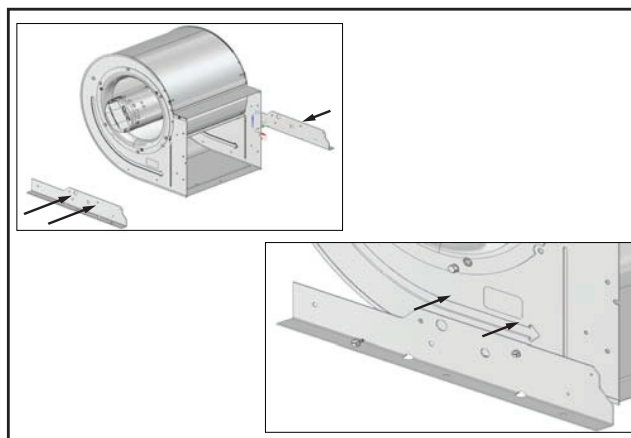

Fig. 53 - Reinstall Vertical Blower Brackets
13. Reinstall (2) vertical blower brackets in the new horizontal position using (4) screws. See Fig. 53.